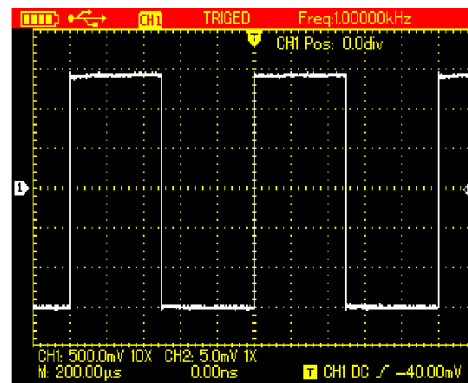

Figure 4-5 Squarewave Signal from the Oscilloscope Itself
3. Connect the probe to the output terminal for probe compensation on the Oscilloscope, press **AUTO** button, after several seconds, square wave displays (1kHz, 3Vpp, Peak-to-Peak Value), See Figure 4-5.